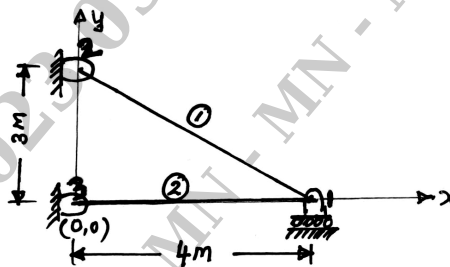

Fig Q3(c)
- c. For the truss configuration shown in Fig Q3(c), determine the stiffness values K_{11} , K_{12} , K_{22} and K_{66} of the global stiffness matrix. Assume $E = 210\text{GPa}$, $A = 6 \times 10^{-4}\text{m}^2$ for both the truss member.